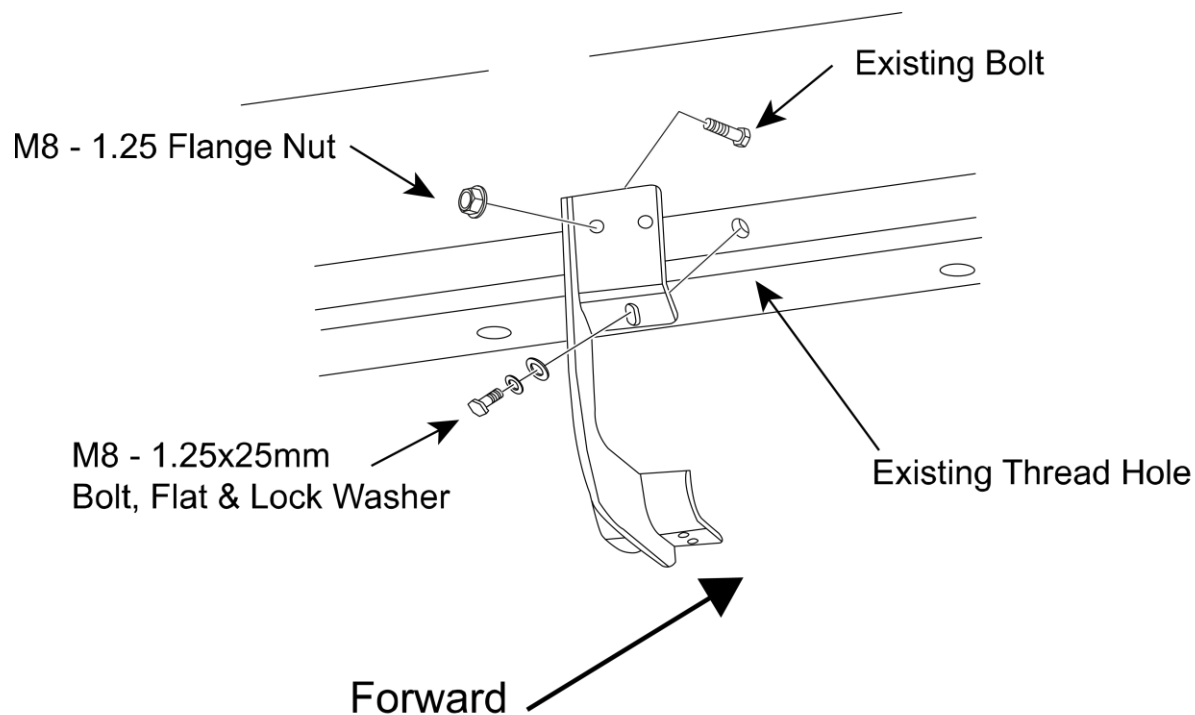

Figure 1. Installation View of Driver Side Shown
1. Install driver side bracket as shown (see Fig 1) placing bracket over existing bolt and tighten with M8 Flange nut.
2. Place M8x 25mm hex head bolt, M8 flat washer, and M8 lock washer through bracket on existing hole on underside of body panel (see Fig 1). Hand tighten.